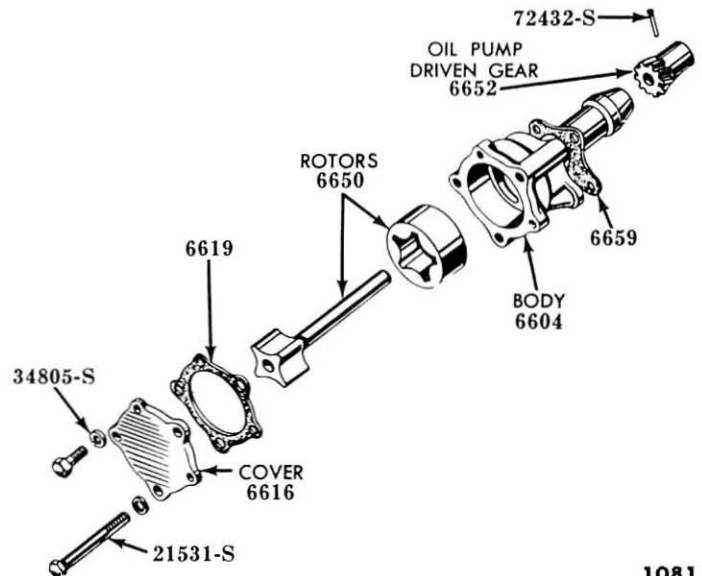

Fig. 15—Rotor Type Oil Pump
(2) **DISASSEMBLY.** A disassembled rotor type pump is illustrated in fig. 15. Remove the cover plate. Remove the outer rotor. Remove the pin from the oil pump driven gear. Remove the gear. Remove the inner rotor and shaft.